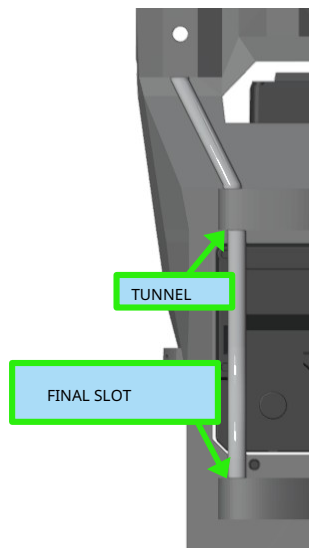

Figure 5.38
2. Insert the other end into the passage tunnel and then into the final slot (figure 5.38).